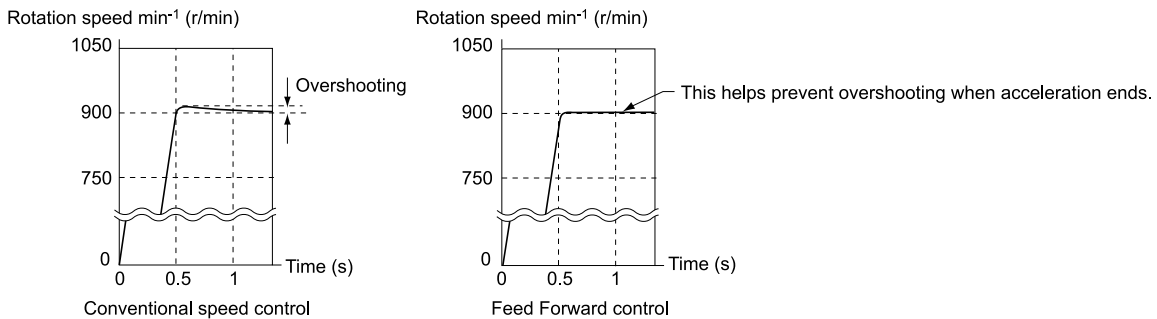
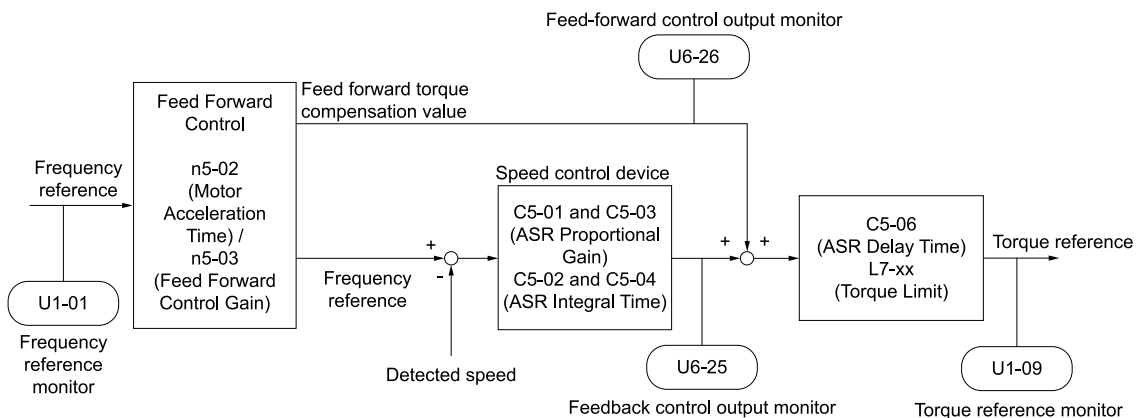

Figure 11.142 Suppress Overshooting with Feed Forward Control
Figure 11.143 Configure Feed Forward Control
Increasing the values set in C5-01 and C5-03 [ASR Proportional Gain] is effective in applying feed forward control to machines with low rigidity for which hunting and vibration are likely to occur or to machines with significant inertia. Applying this function while using CLV control also helps prevent overshooting. Refer to Figure 11.142 for details. Refer to Figure 11.143 for more information on parameters related to feed forward control.
- If Inertia Tuning cannot be performed, refer to Figure 11.143 and set the parameters related to feed forward control individually.